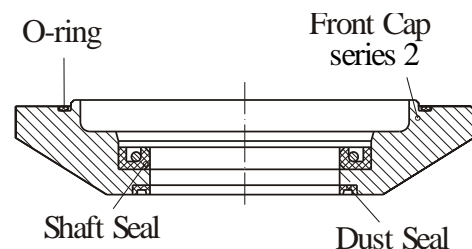

Fig. 4 (for series 2)
9. Remove carefully dust seal, shaft seal and O-ring (see Fig. 4).
Fig.4 a (for series 1)